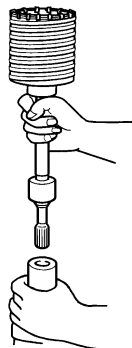
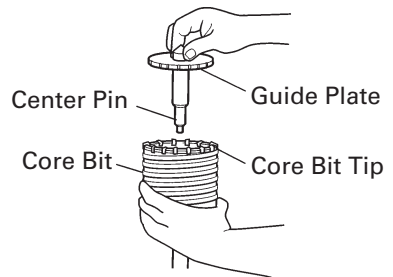

Fig. 14
Fig. 15
- (2) Mount the core bit shank to the Rotary Hammer. (Fig. 14)
- (3) Insert the center pin into the guide plate until it stops.
- (4) Engage the guide plate with the core bit, and turn the guide plate to left or right so that it does not fall even if it faces downward. (Fig. 15)